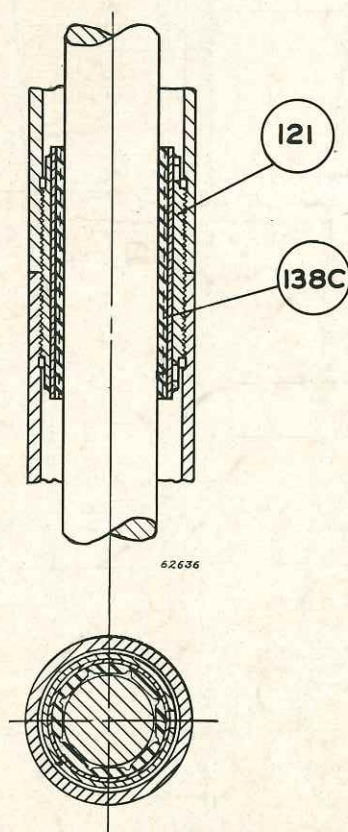
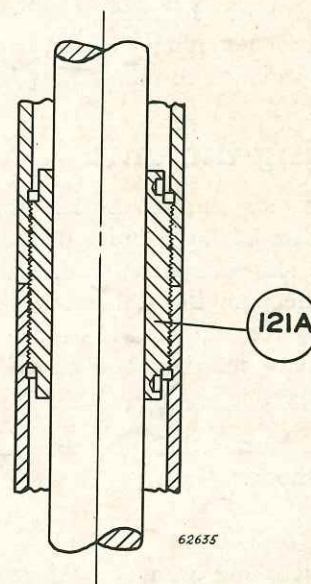
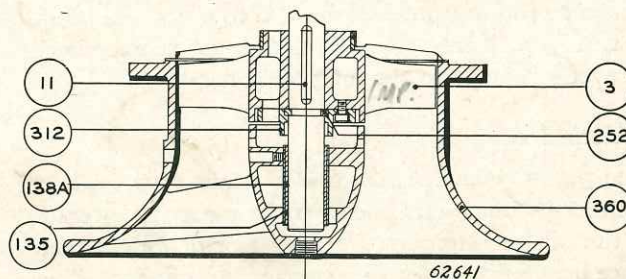

Fig 2. Water-lubricated, cutless-rubber bearing.
Fig 3. Oil-lubricated bearing.
Fig 4. Grease-packed lower bearing.
Water-lubricated bearings are of the cutless rubber type and are lubricated by circulation of clear fresh water, Fig. 2. Oil-lubricated bearings are lubricated by maintaining the inner column full of oil, with a drop oiler, Fig. 3. Grease-lubricated lower bearings are packed with hydraulic grease before leaving the factory and need be repacked only at three to five year intervals, Fig. 4.
a. Water-Lubricated (Fig. 2)
b. Oil-Lubricated (Fig. 3)
c. Grease-Packed (Fig. 4)